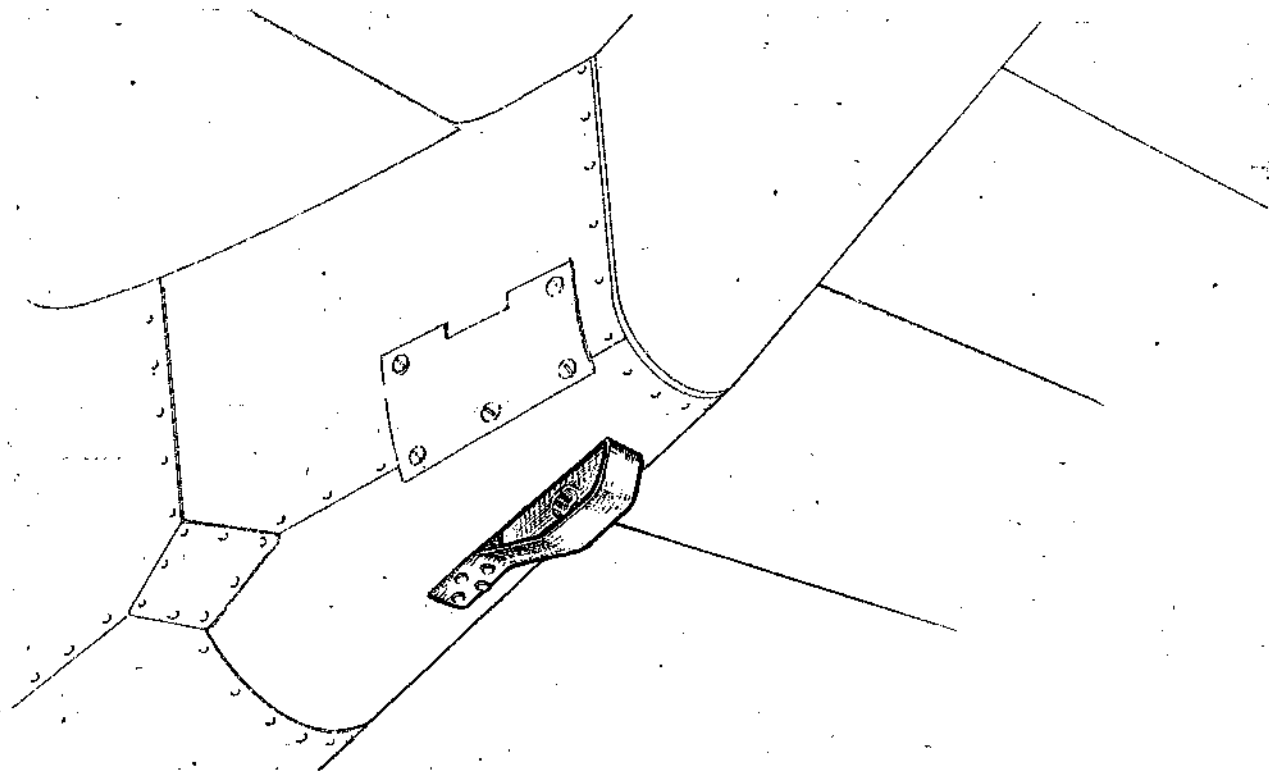

Figure 8 - Tail skid
Tail skid (fig . 8)
11. In order to avoid damage at the airplane rear fuselage when landing with tail boom down, a tail skid has been provided as shown in figure 8. The tail skid is made of a high hardness rubber protected with stainless steel sheet at the outside.